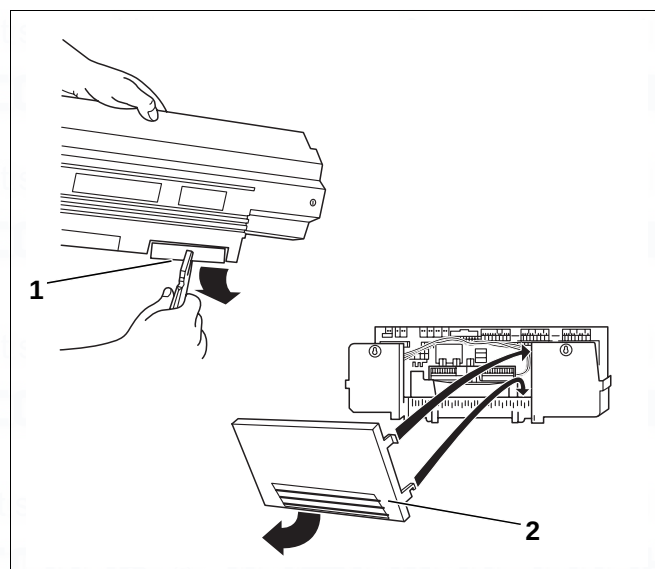

Fig. 44 Preparation – cable entry
- If necessary, make knock-outs (Fig. 44, [1]) in the rear panel of the cable entry (Logamatic 33..) or remove the rear panel section (Logamatic 43..) (Fig. 44, [2]).
- ▶ Hook the lower hook on the rear panel section (Logamatic 43..) into the clip frame and apply pressure at the top until the side hooks click into place (Fig. 44, [2]).